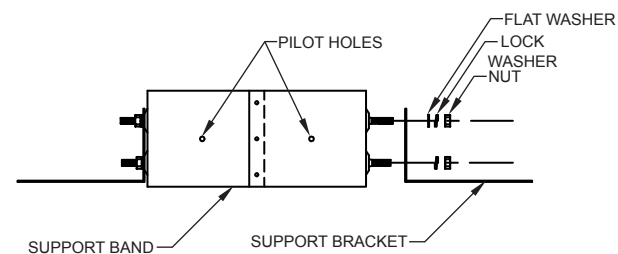
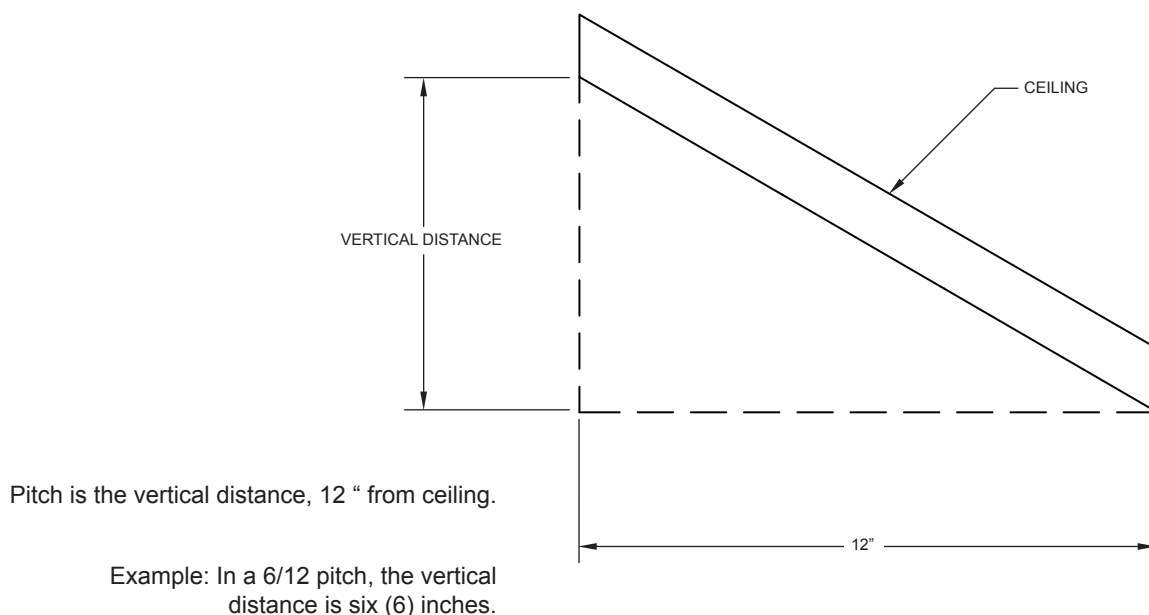

FIG. 12
FIG. 13
3. Assemble TGAS as shown in **FIG 12**. Tighten nuts finger tight only.
4. Locate the TGAS over the framed opening in the roof. Nail the brackets to the framing using a minimum of two (2) #8 nails per bracket.
8. The interior opening in the ceiling may be trimmed with a TGPCP. Select the appropriately shaped trim plate for your ceiling pitch (slope). Slide the trim plate over the opening and secure to the ceiling. Determine ceiling pitch as shown in **FIG. 13**.